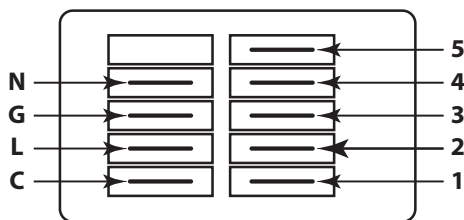

Figure 13. Constant Torque Motor Terminals
3. Locate the BLACK and RED wires connected to two of the 1–5 speed tap terminals on the motor terminal block (See Figure 13).